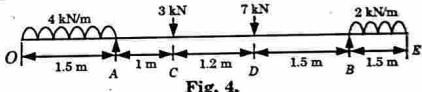

Fig. 4.
- Q. 6. Draw the SFD and BMD and locate the point of contraflexures for the loaded beam in Fig. 4.